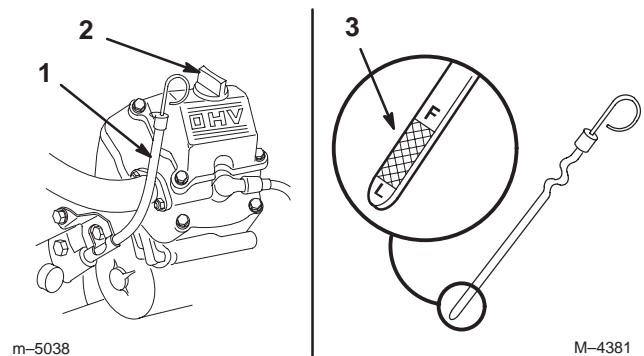

Figure 41
3. Clean around the oil dipstick so that dirt cannot fall into the filler hole and damage the engine (Fig. 41).
4. Pull the oil dipstick out and wipe the metal end clean (Fig. 41).
5. Slide the oil dipstick fully into the filler cap. Pull the dipstick out and look at the metal end (Fig. 41). If the oil level is low, slowly pour only enough oil into the filler tube to raise the level to the full mark.
5. Slowly pour approximately 80% of the specified oil into the filler cap (Fig. 41). Refer to Servicing the Engine Oil, page 35.